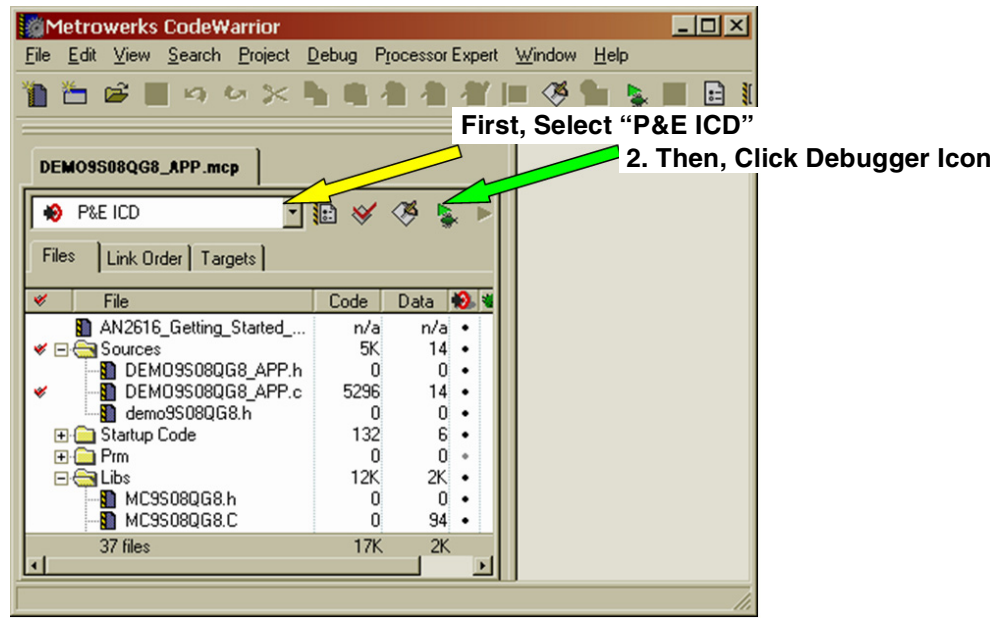

Figure 1. CodeWarrior Project Window (Step 4)
4. Compile for the P&E ICD target and program the MCU by selecting "P&E ICD" from the pull-down menu beneath the project name. Then click the debugger icon, as shown in Figure 1). This will launch the debugger application and ask, "Erase and program FLASH". Click on "Yes". When the programmer pop-up window goes away, the MCU is programmed.